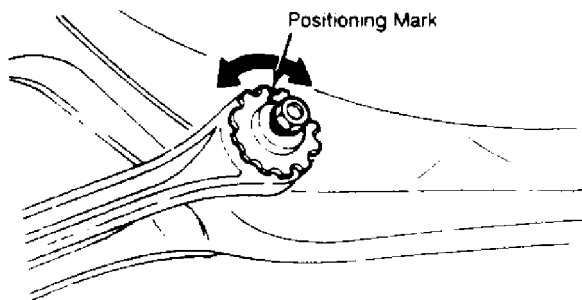

Fig. 2: 626 Star Wheel Adjustment
2) Turn spacer (star wheel) to make the points from rear of tire to center of crossmember equal. See Fig. 2. Turn both right and left spacers the same amount to adjust toe-in.